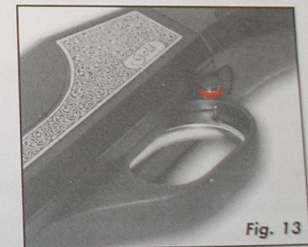

Fig. 13
NOTE: As an added reference, a red ring (DANGER) will be visible on the left side of the button when the Safety is in the "OFF" or "FIRE" position (Fig. 13).
1. Rest the butt of the stock on your hip and open the bolt by pulling back on the bolt lever (Fig. 13). The round in the chamber will be extracted from the chamber and ejected; then release the bolt, allowing it to close.